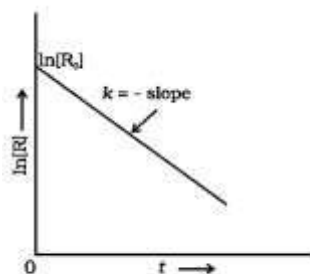

Fig. 4.4: A plot between  $\ln[R]$  and  $t$  for a first order reaction
- If we plot  $\ln [R]$  against  $t$  (Fig. 4.4) we get a straight line with slope =  $-k$  and intercept equal to  $\ln [R]_0$